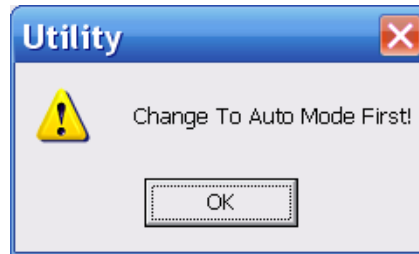

Figure 3.41
- Switch the remote controller to auto mode or the prompt box will appear (Figure 3.41).